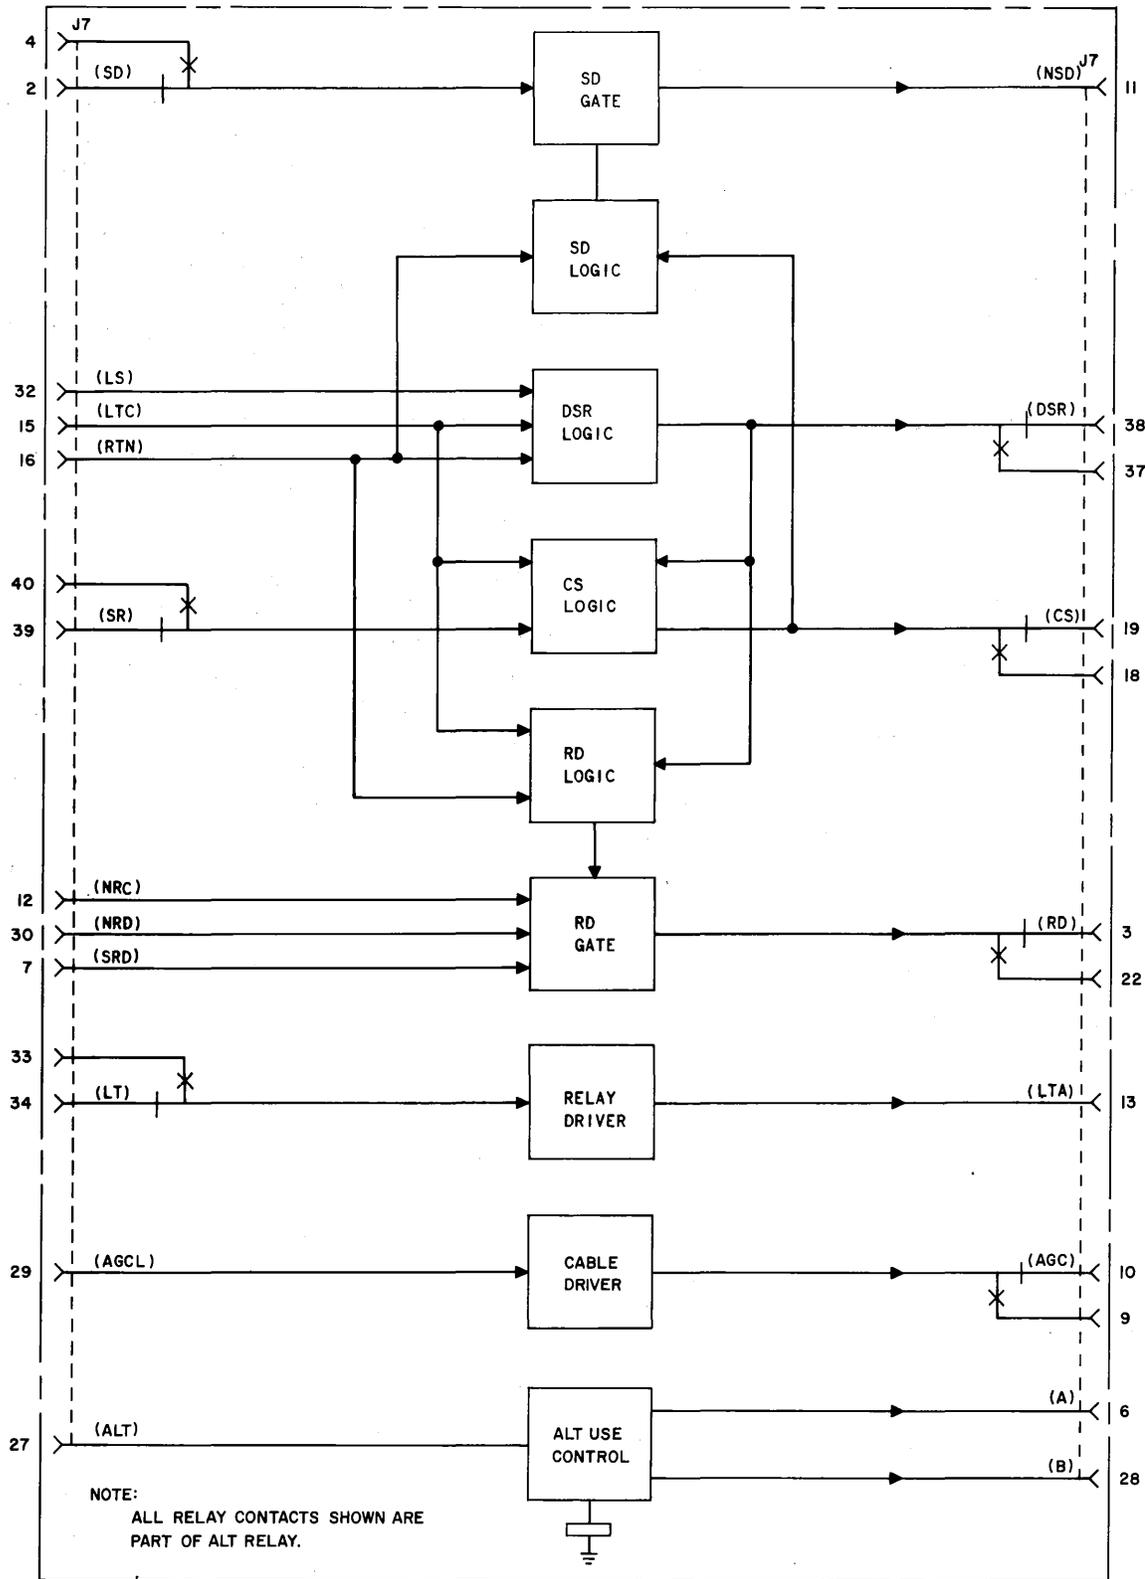

Fig. 5—Unbalanced Customer Interface—Block Diagram
**3.23** The unbalanced customer interface circuit pack (AR135) is used in commercial service application. Refer to Fig. 5 for a simplified block diagram. The balanced customer interface circuit pack (AR136) is available for special government applications (refer to 3.48 through 3.54).